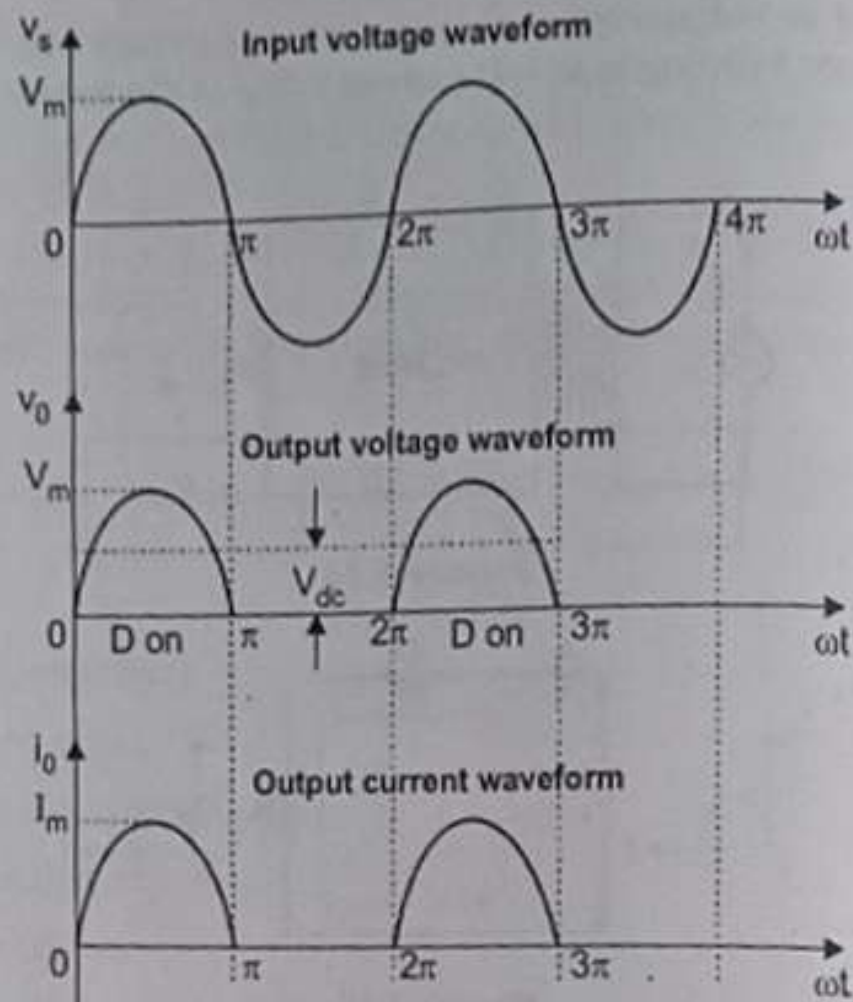

Figure 5.17
- As the forward applied voltage increases beyond threshold voltage, the forward current rises exponentially as shown in the figure 5.17. It should be remembered that if the forward voltage is increased beyond a certain safe value, it produces an extremely large current which may destroy the junction due to overheating.
The input and output waveforms are shown in figure 5.17.